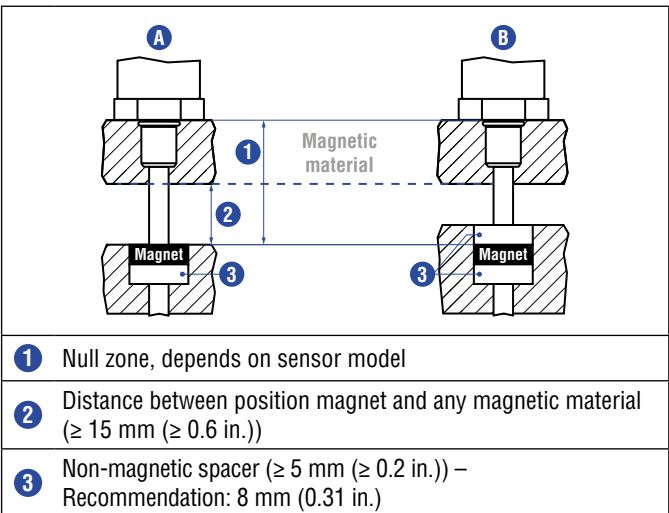

Fig. 18: Installation with magnetic material
- Minimum distance between position magnet and any magnetic material has to be 15 mm (0.6 in.) (Fig. 18).
- If no other option exists and magnetic material is used, observe the specified dimensions (Fig. 18).
When using magnetic material the dimensions of Fig. 18 must be observed.